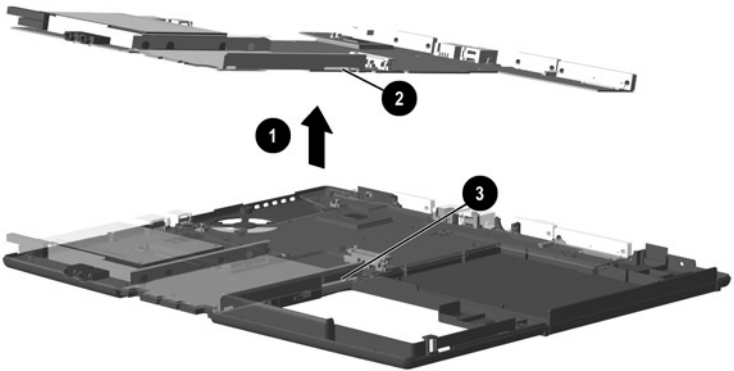

Figure 5-21. *Lifting the System Board*
- Lift up the front edge of the system board ① until the board and the battery connector ② are clear of the base enclosure (Figure 5-21).
**CAUTION:** When removing the system board, make sure the battery connector ② is carefully routed out of the opening ③ in the base enclosure in which it rests. Failure to follow this caution can result in damage to the battery connector.